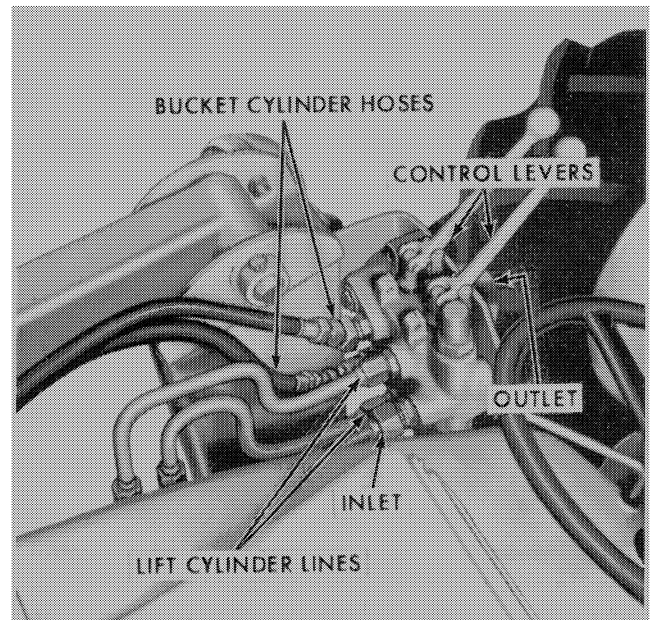

Figure 75
3. Connect the bucket cylinder hoses, Figure 75, and lift cylinder tubes to their respective connections securely.
4. Connect the high pressure inlet tube to the control valve, Figure 75. Tighten the fittings to provide a good seal.